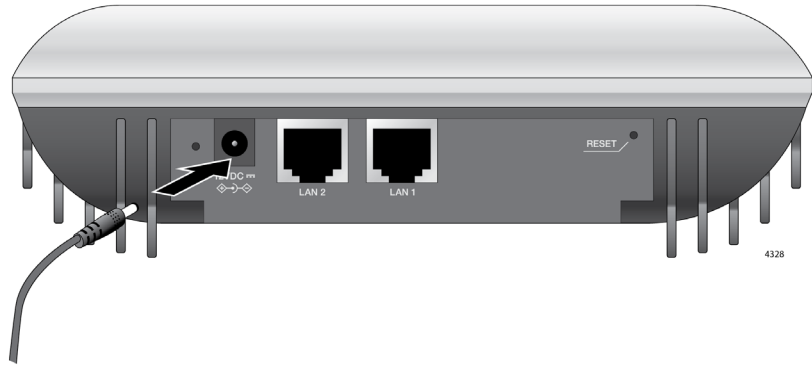

Figure 14. Connecting the LAN Cable and Attaching the Sealing Nut
1. Connect the AC adapter into the DC jack on the access point as shown in Figure 14.